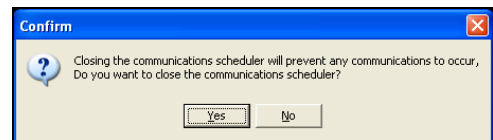

Figure 3.1.5
- Shutdown:** This will bring up the “**Confirm**” window (Figure 3.1.5).